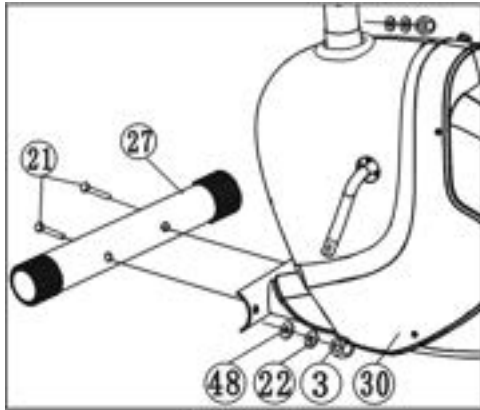

Figure 1
Spring washers (22) and Cap nuts (3). (See figure 1)